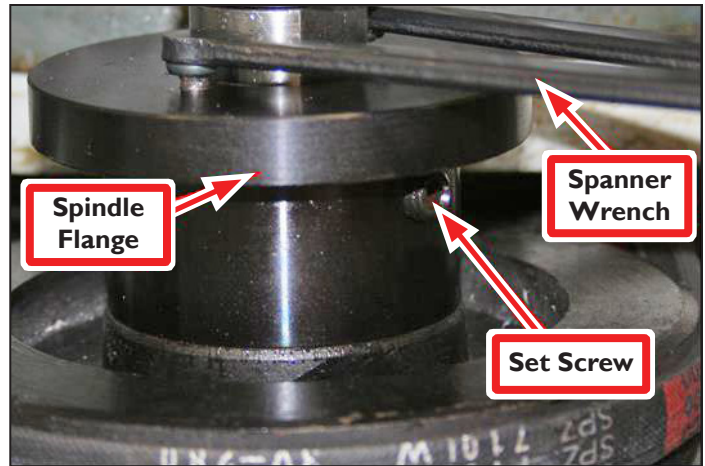

Figure 7
1. Thread the Spindle Flange onto the spindle and use the Spanner Pin Wrench to securely tighten (see **Figure 7**).
2. Put Loctite on the Spindle Flange Set Screw and securely tighten (see **Figure 7**).